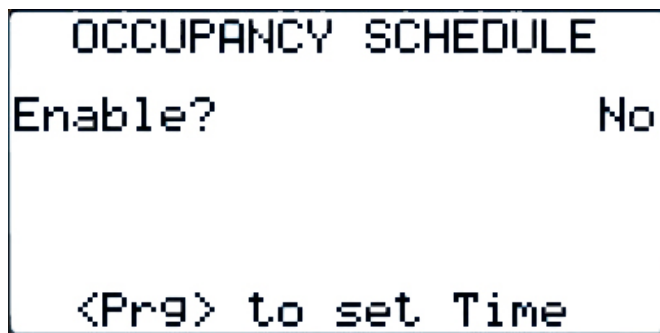

Figure 10
2.3.2 Occupancy Schedule (Figure 10)
Select the OCCUPANCY SCHEDULE from the MAIN MENU to enable a schedule to place the dehumidifier in the occupied mode. See Figure 10. To enable a schedule, select 'Yes', and press **ENTER**. The schedule will need to be setup before this will be enabled. Pressing the **Prg** key from this menu allows the date and time to be modified. To return to the MAIN MENU, press the **Esc** key.